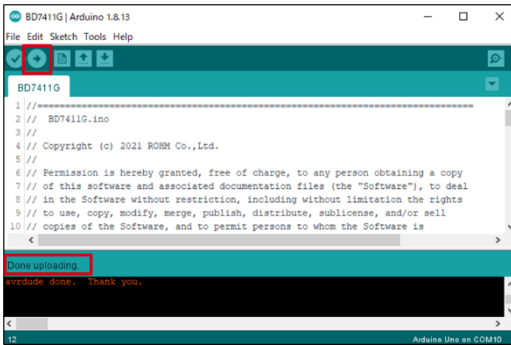

Figure 5. Done Uploading
2. Click the write button and wait for the message “Done uploading.”. (Figure 5)